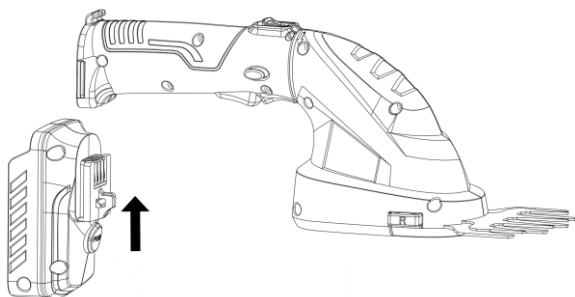

Fig. 2
4.3- Installing/removing the battery adapter (9)
- Fully insert the battery adaptor into the power tool, aligning it with the guide slot, until you hear a "click". Refer to Fig. 2 for reference.
- To remove the battery adaptor, press the adaptor release button (4) and pull the adaptor away from the power tool.